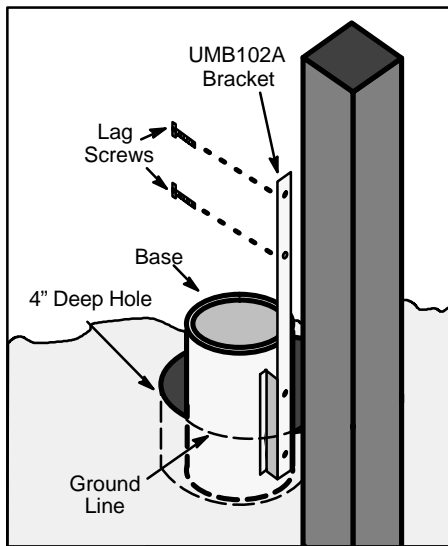
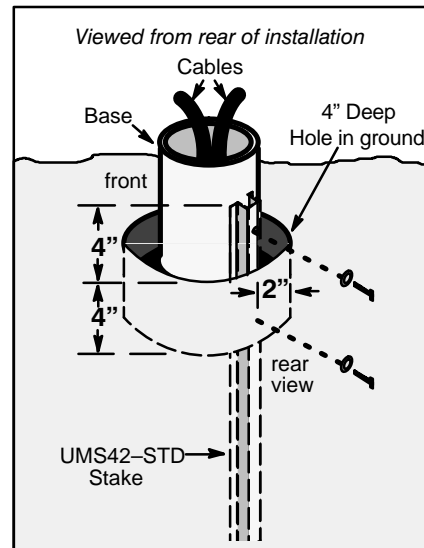
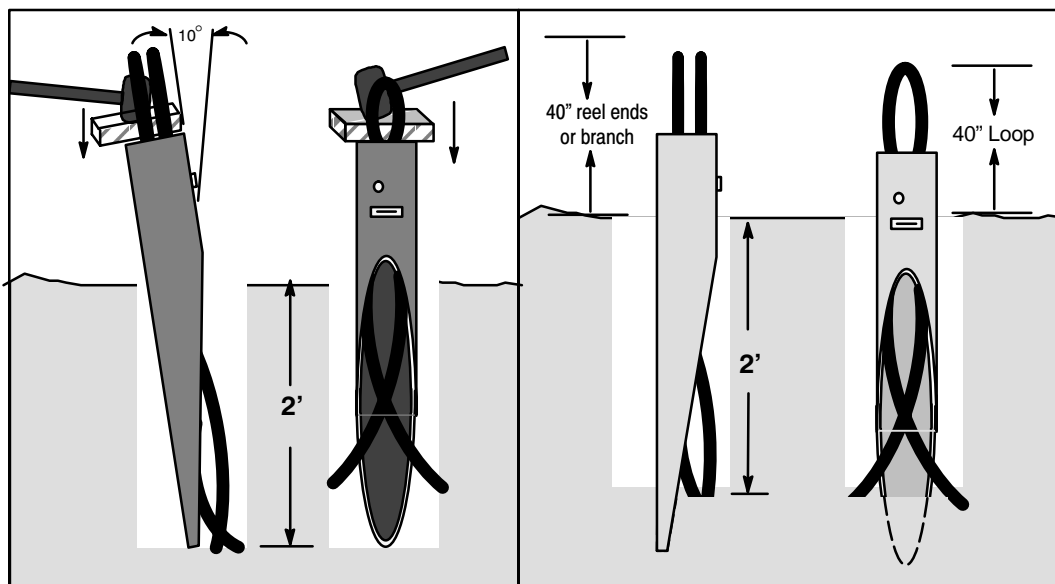

Figure 7. Pole Mounting
Figure 8. Stake Mounting
Figure 9. Integral Stake Mounting
1.	Remove the dome and backboard or bracket from the pedestal and set them aside for later use. If not already installed, seat the drop wire channel into the stays inside the base. The top of the channel should be pushed up against the stops near the top lip of the base. Insert the foam plug into the top of the channel, leaving 1/3 to 1/2 of the plug positioned above the top of the channel. For pole mount pedestals, attach the pole mounting bracket to the base with the hardware provided (see Figure 7).
3.	<p>Pole Mount (solid base or split base) Position the bracket on the pole so that the ground line marker is at the final grade level. Fasten the bracket to the pole with the lag screws provided (see Figure 7).</p> <p>Stake Mount (solid base or split base) Position the mounting stake inside the line of the cable with the base facing out. Drive the stake until approximately 4 inches remain above the final grade level. Attach the base to the stake (see Figure 8).</p> <p>Integral Stake Mount Position the base inside the line of the cable with the open section facing out. If additional depth is required, push the cable toward the front of the base and place a board across the top of the base behind the cable. With a hammer or mallet, drive the base further into the ground until the ground line marker is at final grade level. This level is to ensure easy placement and/or removal of the pedestal dome, and to allow proper ventilation of the pedestal (see Figure 9).</p>